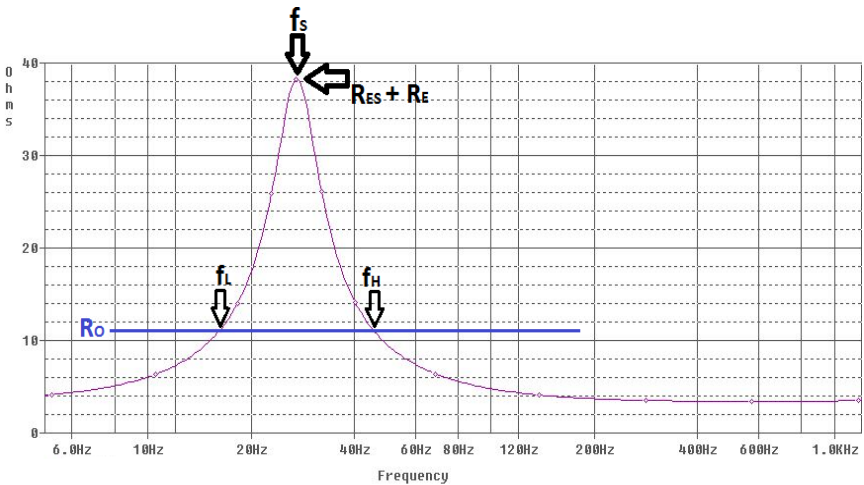

Figure 8, finding  $f_L$  and  $f_H$
5. Adjust the frequency on the IM-SG to the low end of the  $f_S$  range in the chart on the next page. Then slowly raise the frequency until the peak in impedance is found. If you go too far and pass the peak, just back down the frequency until the peak in impedance is found. Figure 8 shows the impedance curve for a 12 inch woofer we tested. We measured the  $f_S$  to be 27.1Hz.
$R_O$  represents an impedance that we are going to try to find with the IM-SG. This impedance will happen twice, once at a frequency lower than the  $f_S$  and once at a frequency higher than the  $f_S$ . We are going to call these  $f_L$  and  $f_H$  respectively. See figure 8 for a graphical representation. Plugging in our numbers from our test woofer we get:
10. Slowly sweep the frequency down to find  $f_L$ . It will be lower in frequency than  $f_S$  was and will occur at  $R_O$  ohms. See figure 8. Record the frequency you found as  $f_L$ . We measured  $f_L$  to be 15.3 Hz on our 12 inch woofer.
11. Now slowly sweep the frequency up, higher than the  $f_S$  frequency. We are looking for the frequency that is at  $R_O$  ohms on the other side of the peak now. We call this frequency  $f_H$ . Record the frequency you found as  $f_H$ . We measured  $f_H$  to be 43.6 Hz on our 12 inch woofer. Refer to figure 8.